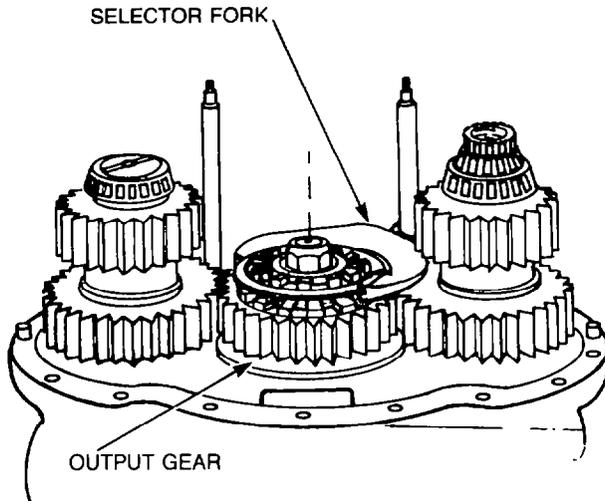

Figure 184 — Installing Selector Fork, Shaft and Clutch Collar
- ac. Assemble the rear selector fork and shaft, together with the clutch collar into position on the output gear (see Fig. 184).